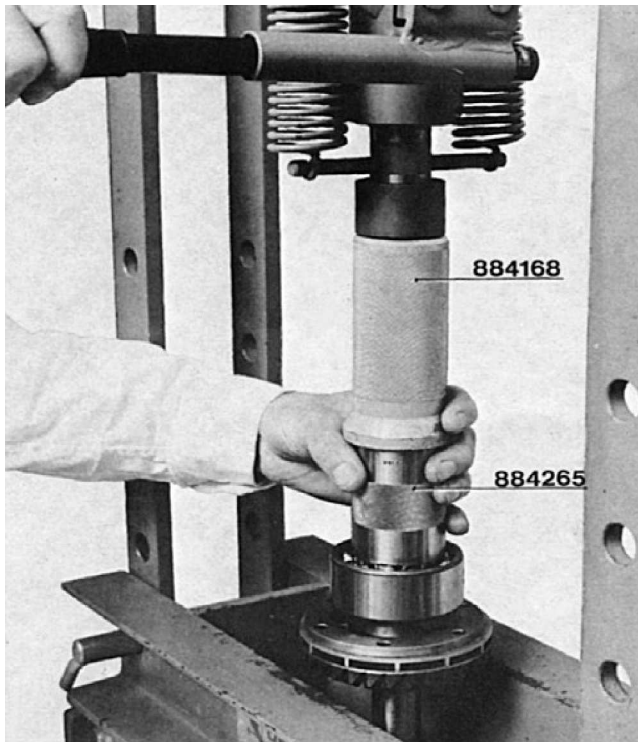

Fig. 35.
1. Fit the pump impeller (25) and the lock ring (23) on the gear (22).
2. Press the bearing race for the propeller shaft needle bearing (12) on the propeller shaft.
3. Fit the gear and lock washer (26) on the propeller shaft and press on the bearing (19). Use tools 884265 and 884168, Fig. 35. Fit the bearing so that the recess in the bearing races for the balls face in the direction of the propeller. Fit the lock washer (20) and the nut (21). Tighten the nut and lock with the lock washer.